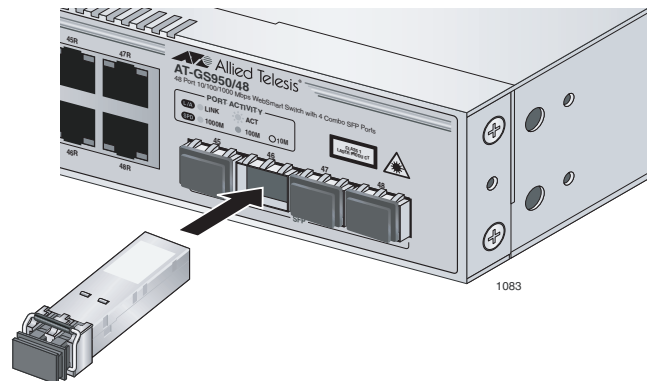

Figure 10. Inserting the SFP
4. Slide the SFP transceiver into an SFP slot on the switch, as shown in Figure 10.